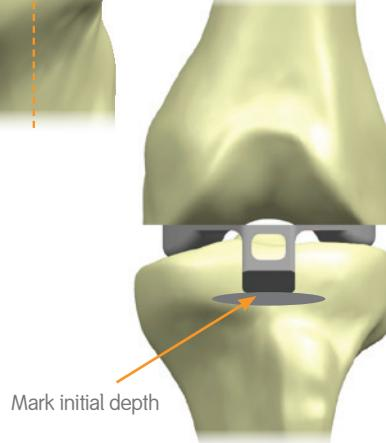

Figure 10
- 5 With the distal femoral gauge in place and the knee in acceptable terminal extension, mark the anterior tibia as an initial depth estimate (Figure 10).